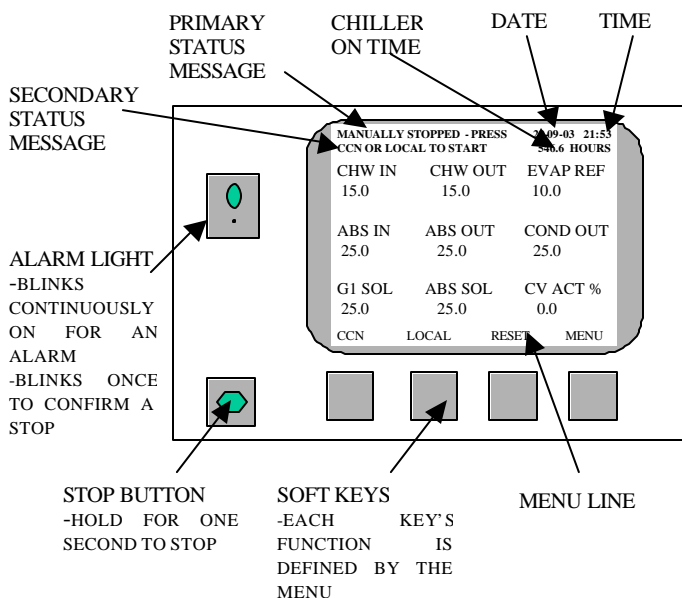

Fig. 3-3 ICVC DEFAULT SCREEN
- The ICVC display will automatically revert to the default screen after 15 minutes if no softkey activity takes place and if the chiller is not in the alarm shutdown. (Fig.3-3)